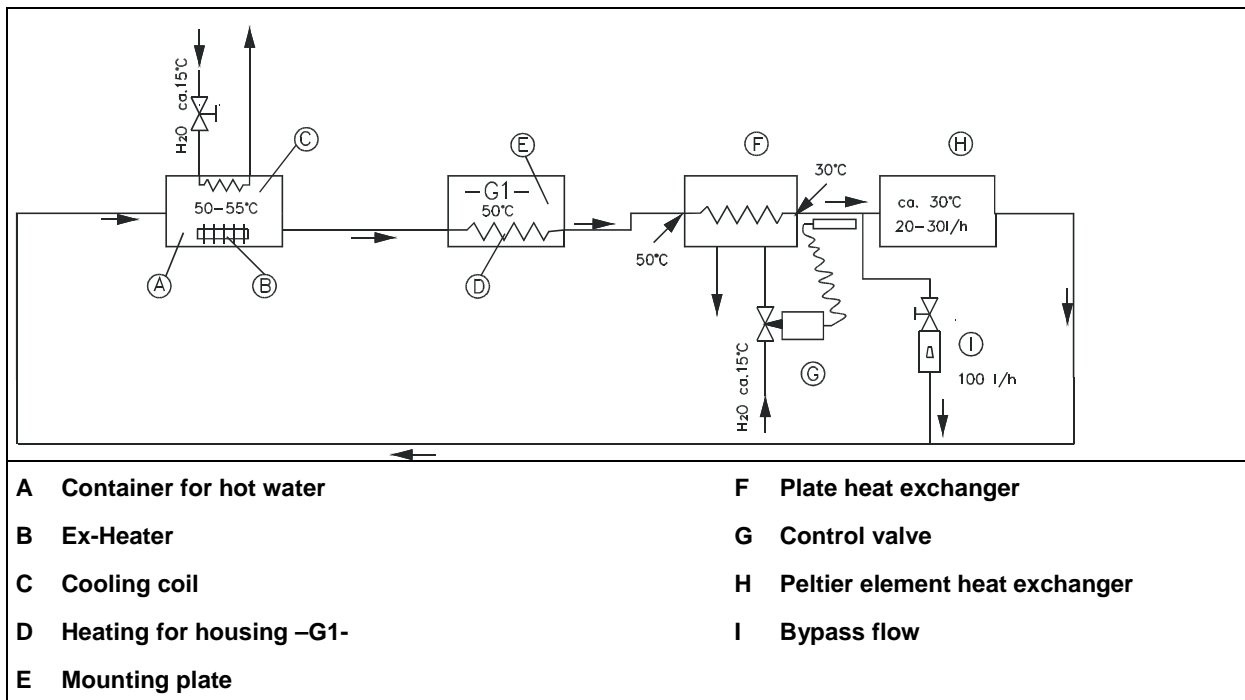

Fig. 3.4: Ex-Warm Water Auxiliary System
**Option:** In the Sampling system (G) the sample is filtered and the pressure and flow are indicated.
**Optional Water Supply:** An Ex-Cooling System or Ex - Warm Water System (H) stabilize the sample inlet temperature via a heat exchanger and remove the heat from the Peltier elements. Fig. 3.4 shows an Ex- Warm Water System with a counter-cooler using 12mm or ½ " connectors.